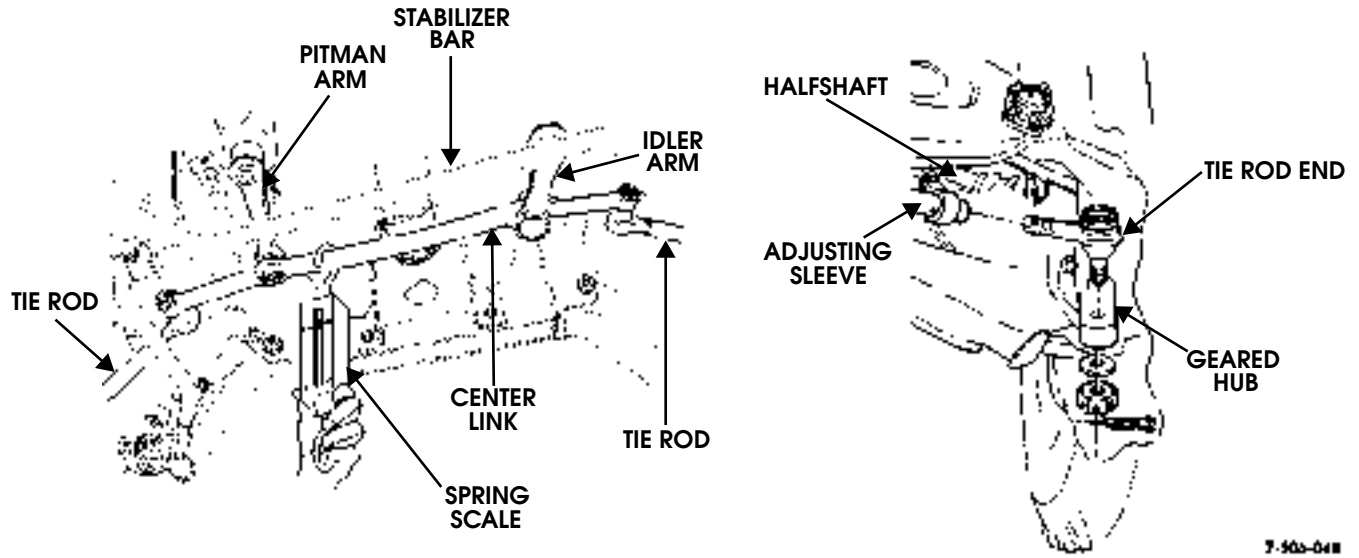

Figure 6-41: Suspension Component Identification
8. Check steering center link, idler arm and tie rod ends for wear or damage (Figure 6-41). Replace parts as needed before proceeding.